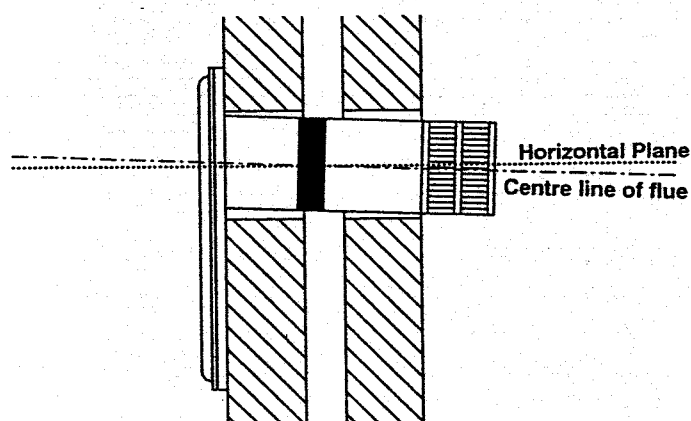

Fig. 3a. Side view showing flue run.
- The flue should run horizontally, or with a slight drop to the terminal, in order to prevent rain entry. (see fig. 3a.)